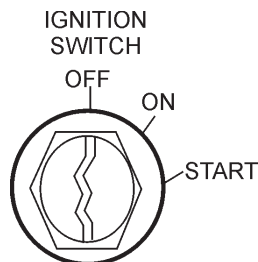

Figure 12. Ignition Switch
4. Insert the ignition key into the **ignition switch** (Figure 12), turn the key to the **ON** position, then to the **START** position, release the key when the engine starts.
2. Insert the ignition key into the ignition switch (Figure 12), turn the key to the **ON** position.
4. Turn the **ignition switch** (Figure 12) to the **OFF** position to shut-down the engine.
3. Turn the **ignition switch** (Figure 12) to the **OFF** position.